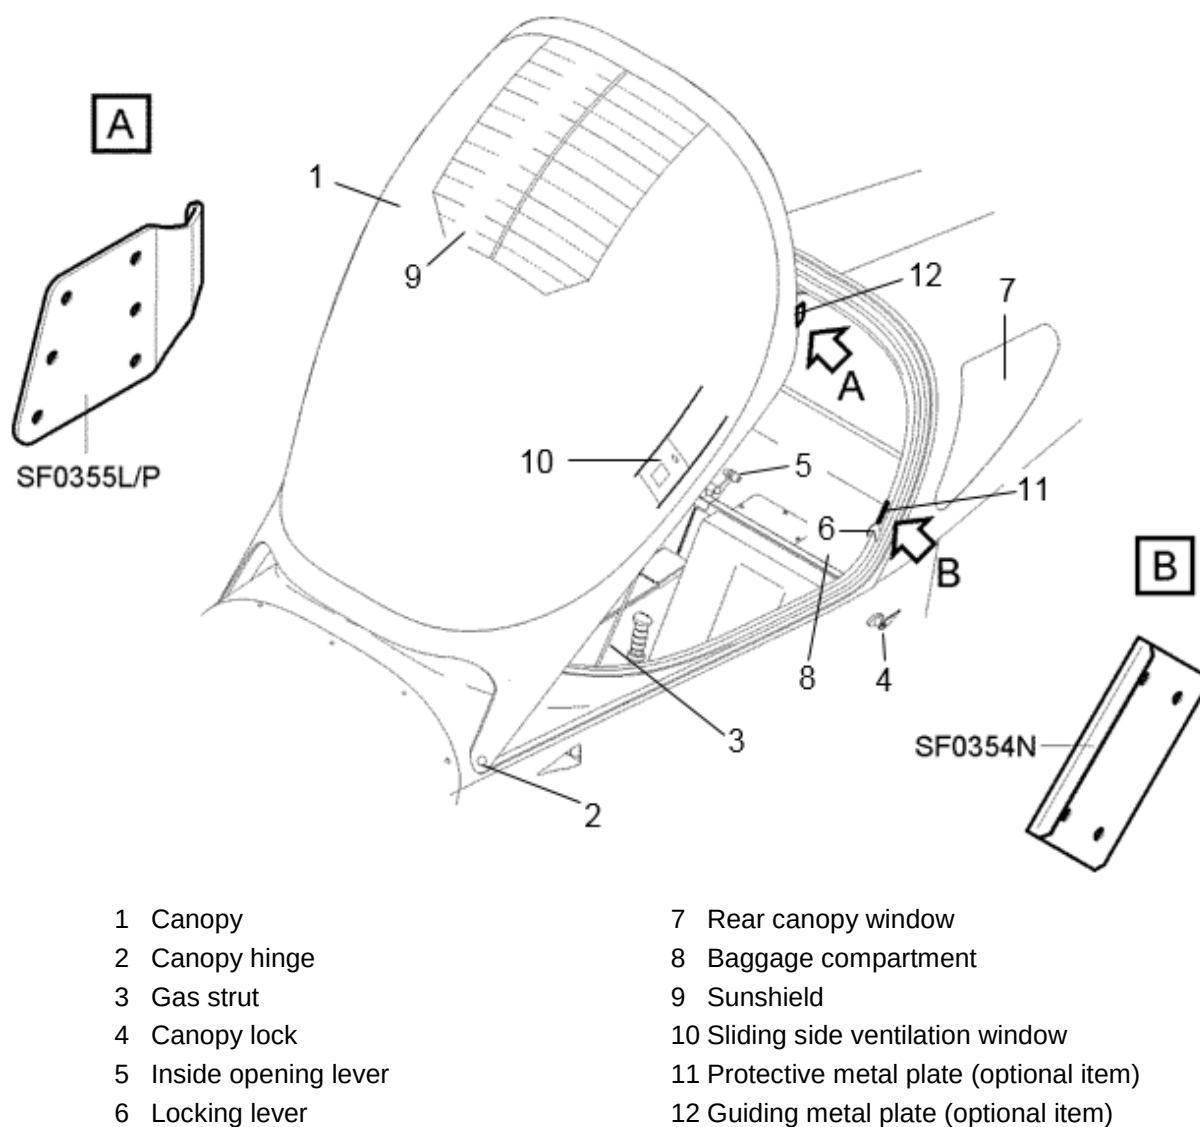
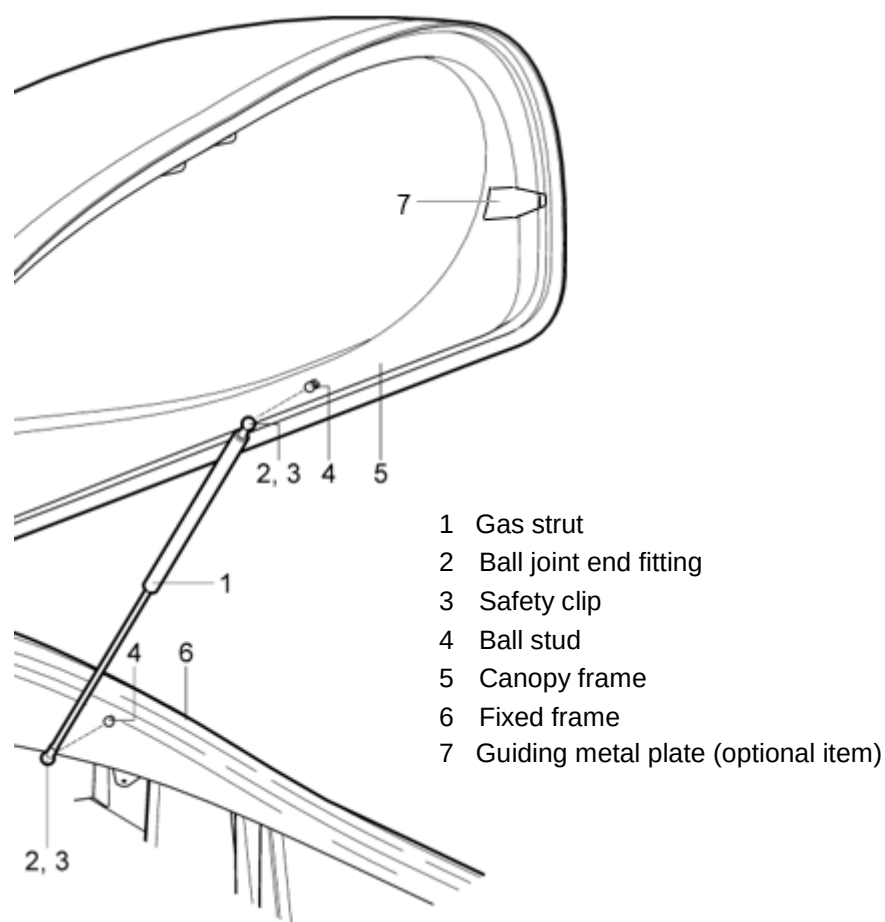

Fig. 3-3: Canopy, rear canopy window
Fig. 3-5: Gas strut removal / installation
Baggage compartment (8, Fig. 3-3) is located between the seats and the bulkhead No. 7. Max. baggage weight transported in the baggage compartment is 18 kg (40 lbs).
The canopy (1, Fig. 3-3) has a semi drop shape and enables access to the cockpit. The canopy consists of composite frame on which the windscreen is attached. The canopy is suspended in two swivel hinges (2) on front sides of the composite fixed frame. The canopy can be opened forward and is lightened by a gas strut (3) each side which keep it in the opened position. The canopy lock (4) is placed on the left side of fuselage below the cockpit frame. The locking levers (6) are installed inside the fixed frame. The opening lever (5) is placed between the seats backs. The handle (7, Fig. 3-5) is attached on the upper part of the composite frame. Along its whole perimeter, the canopy is sealed with a silicone profile. The canopy is generally equipped with the sunshield (9, Fig. 3-3) and sliding ventilation windows located on both sides of the canopy. For newer models of the SportCruiser airplane closing and securing of the canopy is sensed by one terminal switch, located at the inside opening lever between the seats (see Wiring Manual). If the canopy is not properly closed and secured, the **CABIN OPENED** light will be flashed in red on the upper part of the left instrument panel.
On option, some models can be equipped with set for improved and easier guidance of the canopy on the locking hooks during canopy closing (see items 11, 12, Fig. 3-3).
- (a) Open the canopy (5, Fig. 3-5); hold it.
- (b) Remove the safety clip (3) from the ball joint end fittings (2) on the canopy frame (5) and on the fixed frame (6).
- (c) Remove the gas strut (1).
- (a) Inspect the strut (1, Fig. 3-5) whether it is not damaged.
- (b) Insert top ball joint end fitting (2) on the ball stud (4) on the canopy frame (5), and bottom ball joint end fitting (2) on the ball stud (4) on the fixed frame (6)
- (c) Secure the joints with safety clips (3).